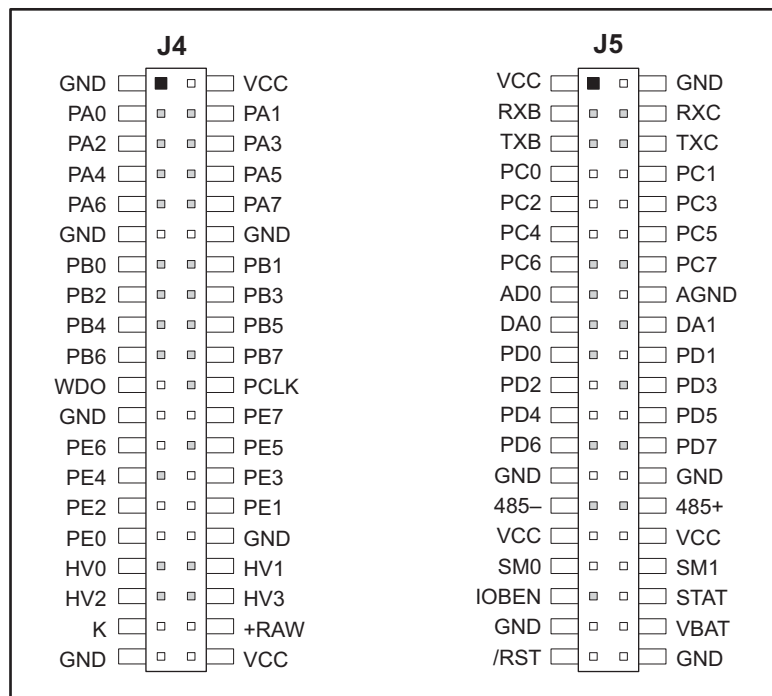

Figure 1. Pinout for Jackrabbit Headers J4 and J5
Figure 1 shows the pinout for headers J4 and J5, which carry the signals associated with the Jackrabbit subsystems.
- **Extension Headers**—The complete pin sets of the Jackrabbit are duplicated at these two sets of headers. Developers can solder wires directly into the appropriate holes, or, for more flexible development, 40-pin header strips can be soldered into place. See Figure 1 for the header pinouts.